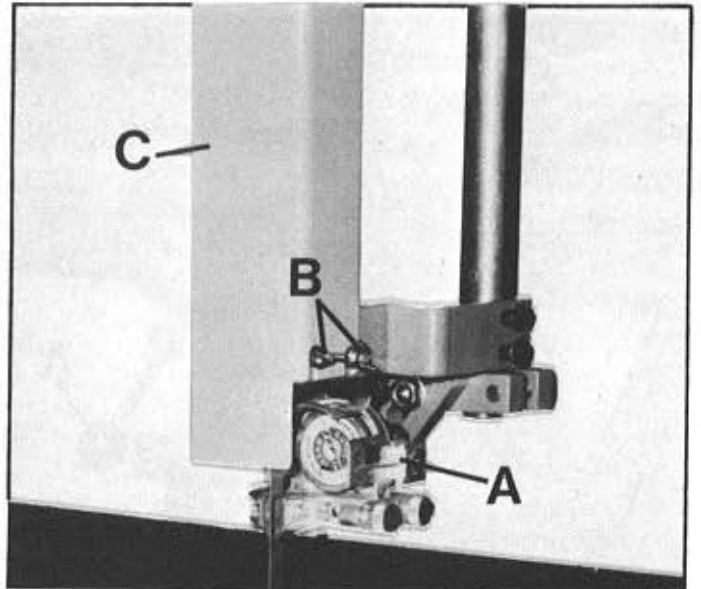

FIG 12
A sawguide unit "A", FIG.12, is fitted above the table and is fully adjustable for adequate sawblade support. The unit is fitted with TEFLOY support blocks and a long life bearing.
2. Loosen wingnuts "B", FIG.12, and remove sawguard "C".
6. Refit sawguard "C", FIG.12 and secure with wingnuts "B".